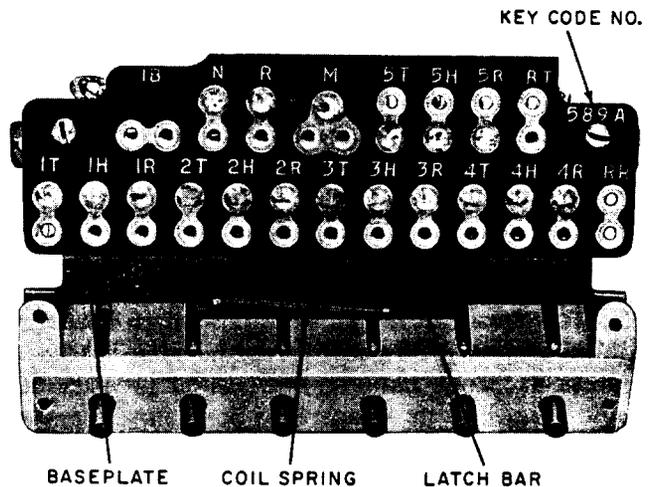

Fig. 3—589-Type Key, Top View
2.11 Field maintenance of the 589-type key (Fig. 3 and 4) consists of: